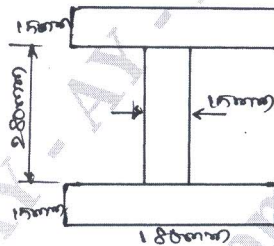

Fig Q7(b)
- b. A beam with "I" section as shown in Fig Q7(b) is subjected to a bending moment 120kN.m and shear force of 60kN. Determine the bending stress and shear stress distribution along the depth of the section and write the distribution.